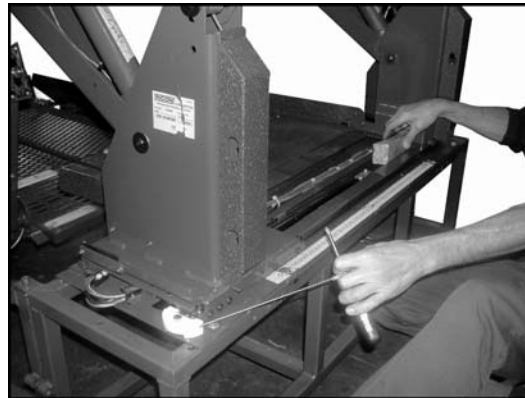

FIGURE 8
7. Refer to **FIGURE 8**. Insert screwdriver through cable end for leverage then pull cable to compress gas strut and remove wooden block. Release cable slowly.